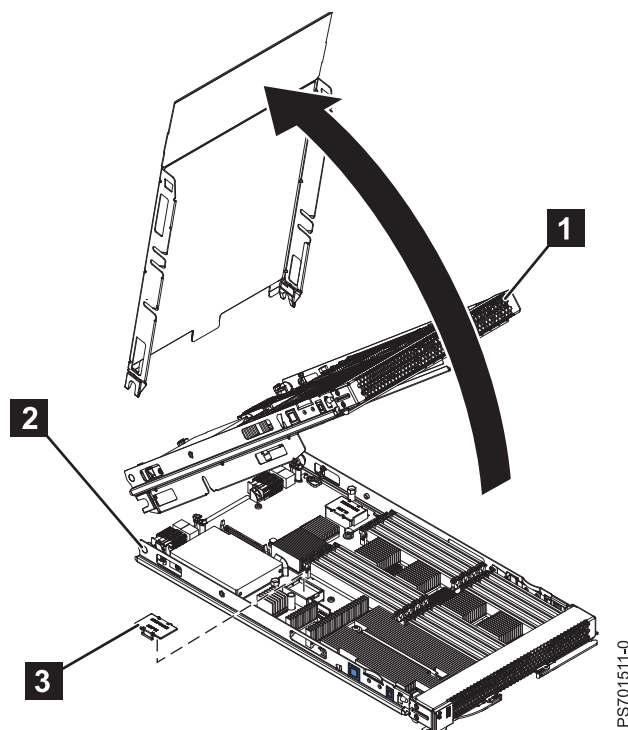

Figure 16. Removing the expansion unit
- Pivot the expansion unit (**1** in Figure 16 on page 253) up on the cover pins of the base unit (**2**).
7. Lift the expansion unit (**1** in Figure 16) from the blade server base unit and store it for future use.
8. If you are not installing another expansion unit, replace the expansion connector cover (**3** in Figure 16).